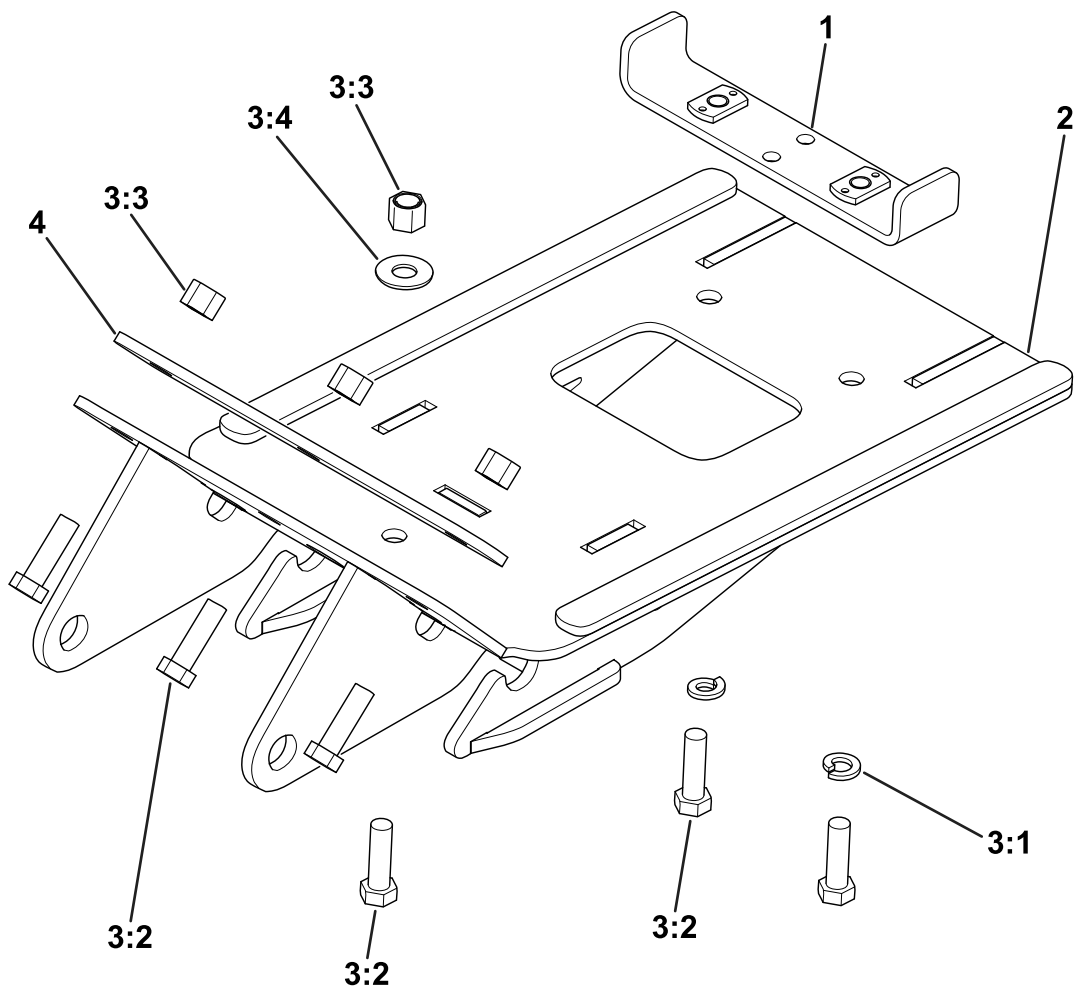

**Figure 4**
10. Use 2 bolts and 2 split-lock washers to attach the rear of the skid plate to the vehicle frame (**Figure 4**).